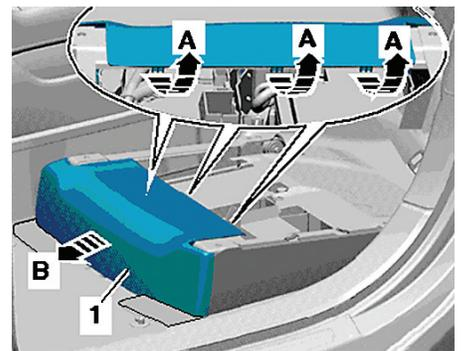

Fig. 3 Battery cover removal
8. Remove cover in direction of arrow B from driver's seat console, **Fig. 3**.